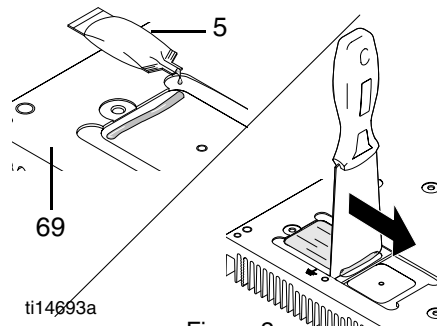

Figure 2
- b. For 6 capacitor boards with the powerbar shown in Fig. 2 below, apply a small amount of thermal compound 15U114 or 110009 (5) into both pockets of the Powerbar (69) and scrape across the pocket with the provided scraper so an even layer is remaining in the pocket